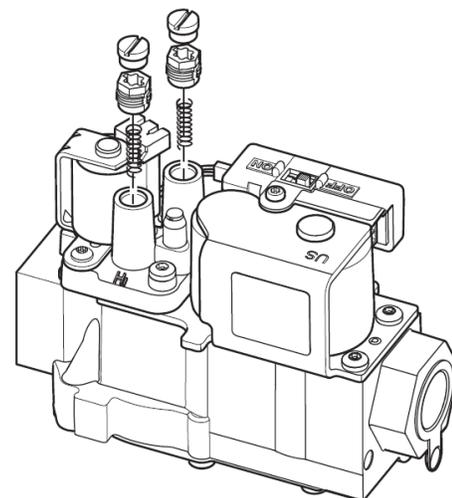

Fig. 6. Gas conversion kit.
4. Insert the replacement Regulator Springs in both towers. Refer to Fig. 6.
5. Install the new plastic pressure regulator adjustment screws to both towers. Refer to Fig. 6.
2. Using a 3/16" Allen wrench, remove the plug from the inlet pressure tap (INLET side of gas valve). See Figure 6 (page 6).